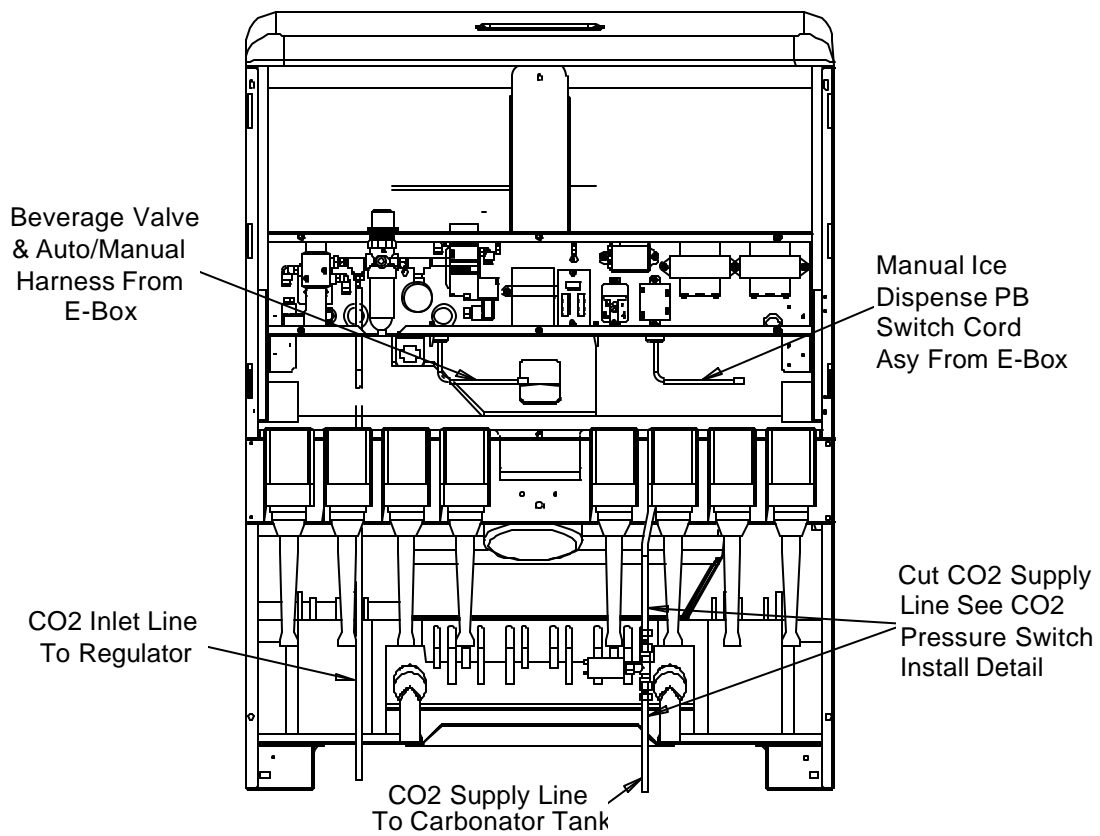

Figure 1.
1. Remove the upper front panel which is secured to the cabinet by "hooks" that fit into slots on the cabinet front flange. Lift up on the panel right and left sides to disengage the hooks from the slots and then rotate the panel downward and forward to remove from the cabinet. Disconnect the (3) electrical harnesses at the rear of the front panel.
3. Locate the CO2 supply line (1/4 beverage tubing) to the carbonator tank located on the right side of the unit above the coldplate (see Fig. 1). Cut this line in an area that will be accessible for future servicing and install the CO2 pressure switch with the fittings provided in the kit (see Fig. 3).